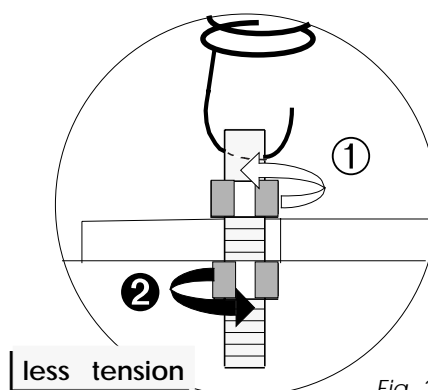

Fig. 28b
- 4b **to reduce spring tension:** observe the illustration ① and ② in Fig.28b.
5. replace the upper casing (Y) and secure with the four screws (Y1).